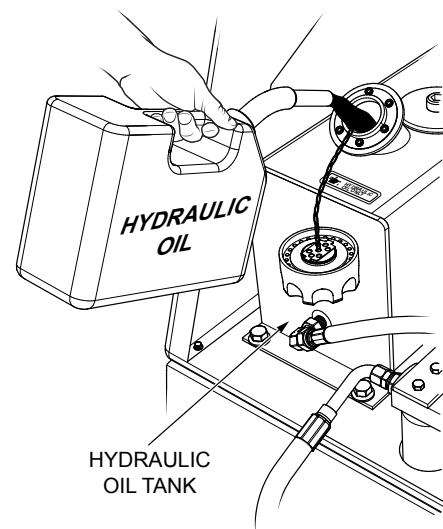

Figure 39. Adding Hydraulic Oil
8. Remove the hydraulic oil filler cap (Figure 39), and add hydraulic oil as required. Fill to the normal operating mark as indicated on the hydraulic oil sight gauge.